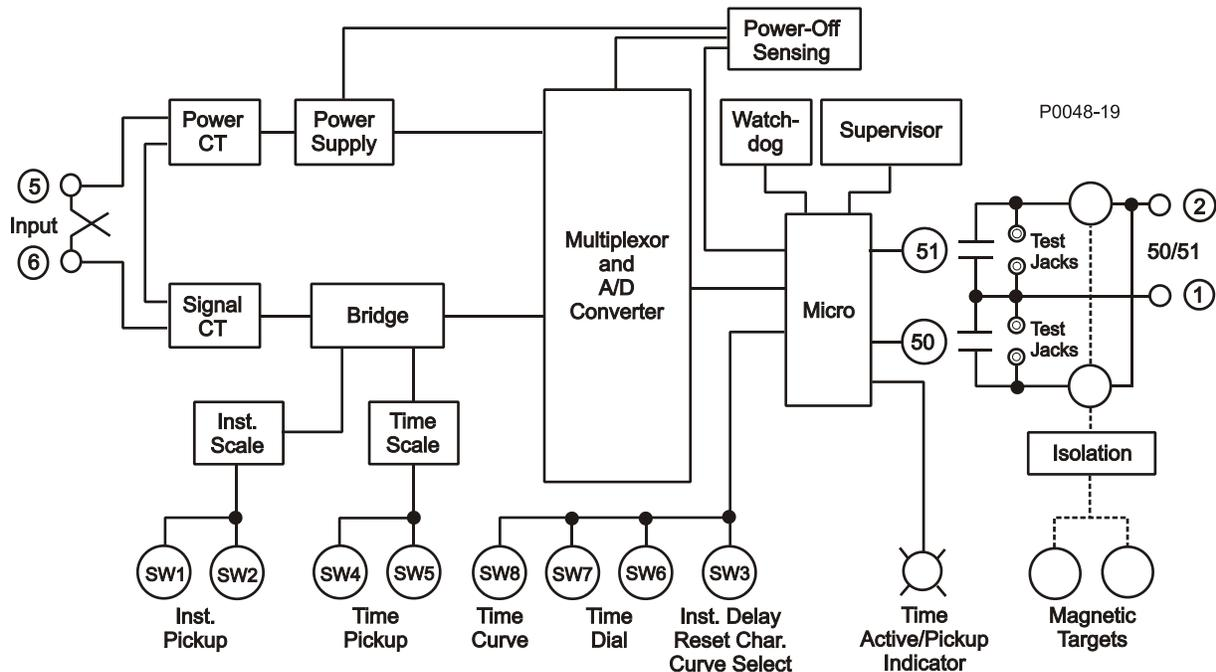

Figure 3-1. Functional Block Diagram
Single-phase ac current from system current transformers (CT) is brought into the Overcurrent Relay at terminals 5 and 6. Refer to Figure 3-1 to follow the functional description. The input current is applied to internal power and signal CTs.